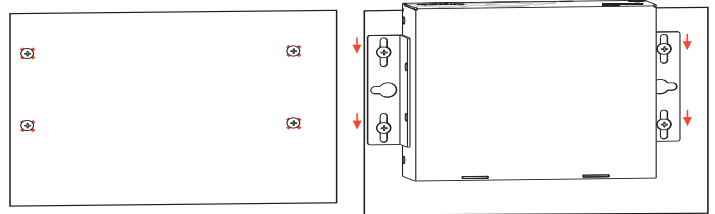

FIG. 4 DRILL PILOT HOLES AND INSERT SCREWS, DO NOT TIGHTEN
3. Align the module with the center of the double key-hole slots over the screws and slide into place as indicated in FIG. 4.